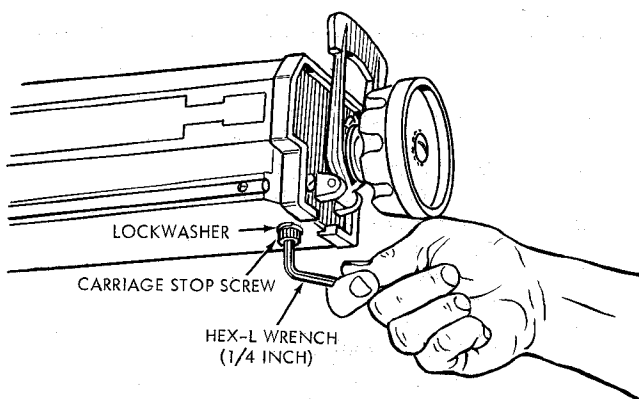

Figure 5
- Refer to figure 5 and, with a 1/4-inch hex-L wrench, remove the carriage stop screw and lockwasher.
- Install and tighten the carriage stop screw and lockwasher. (See figure 5.)